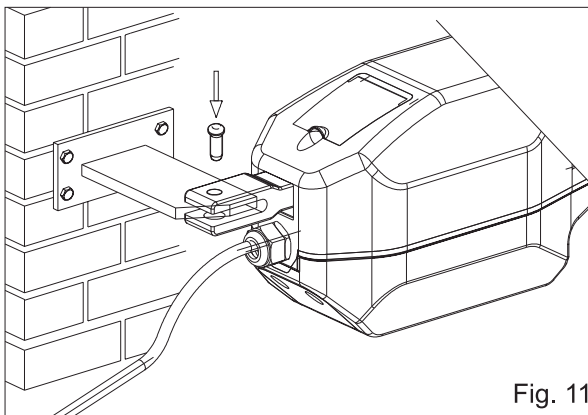

Fig. 11
2) Assemble the rear bracket fitting to the operator as shown in Fig. 11 and Fig. 12.